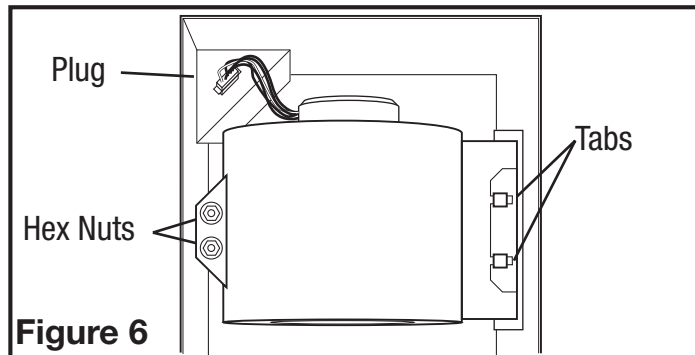

Figure 6
- 1b. Internal Wire Compartment: Using a 7/16" socket, remove the two hex nuts holding the blower assembly in place. Lift up on the assembly and slide it out of the tabs on the housing (Figure 6). Remove the wire compartment cover screw and place the cover in a secure place (Figure 7).